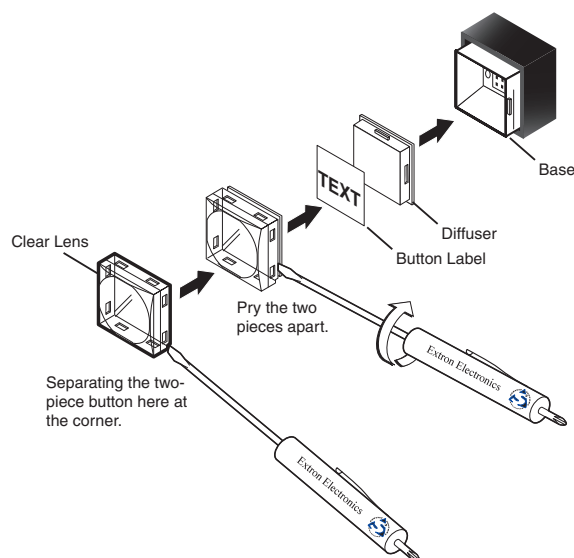

Figure 6-5 — Illuminated button label replacement
2. Remove the button from the DXP by grasping the button firmly and pulling it away from the front panel (figure 6-5).